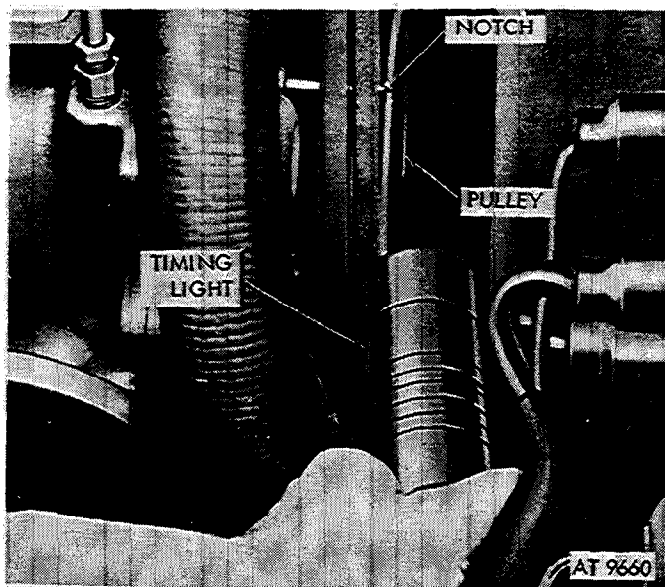

Figure 2-163. Checking timing using timing light.
(4) With engine idling, direct timing light at timing pointer on timing gear cover (fig. 2-163).
(5) Slowly rotate distributor until timing pointer and crankshaft pulley notch are alined. When timing marks are alined, firing will take place at  $6^\circ$  before top dead center of piston travel. When this alinement is accomplished, tighten distributor to distributor adapter mounting screw.
(6) After tightening mounting screw, recheck timing to determine that tightening has not disturbed alinement. Increase engine speed while directing timing light to notch and pointer. Notch should move away from pointer if distributor centrifugal advance is functioning. Disconnect all timing devices and install spark plug cable.